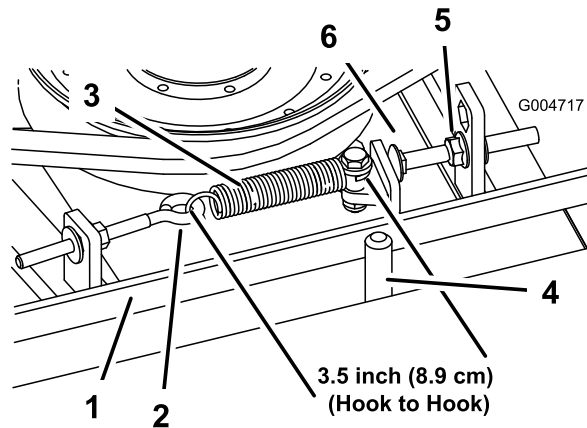

Figure 64
When properly tensioned, the extension spring (hook to hook) measurement should be approximately 3.50 ±.25 inch (inside). Once the correct spring tension is attained, adjust the stop bolt (carriage bolt) until there is approximately .125 +.060/-.000 inch clearance between the head of the bolt and the idler arm (Figure 64).
Note: Make sure the belt is positioned on the spring side of the belt guide (Figure 64).
2. Loosen the eye bolt allowing the removal of the extension spring (Figure 64).
3. Loosen the flange nut securing the stop bolt to the mounting tab. Back off the nut enough to allow the idler arm to pass by the stop bolt (Figure 64). Move the idler pulley away from the belt to release belt tension.
8. Reconnect the extension spring (Figure 64) to the eye bolt and tension the belt as follows: